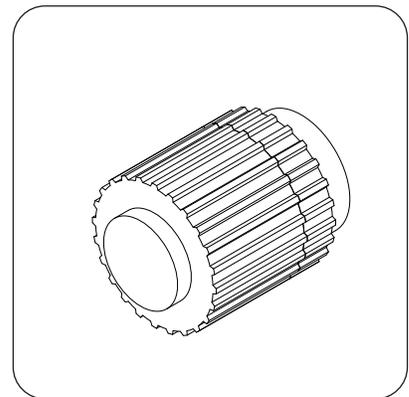
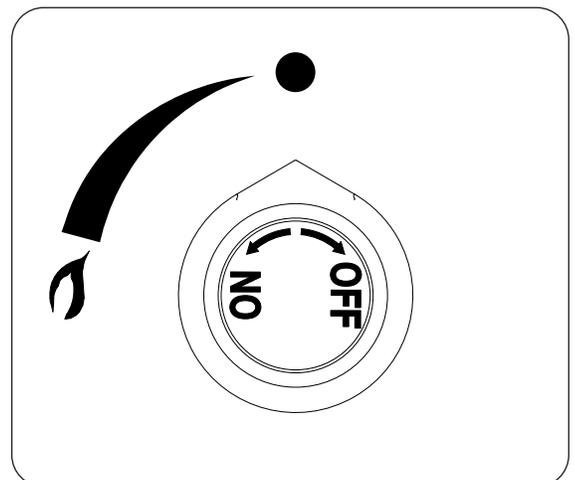

Fig. 51-1 Igniter button detail
Fig. 51-2 Control knob detail
2. Locate the control panel on the side of the unit (refer to the IDENTIFICATION PARTS LIST if needed), and identify the igniter button (Fig. 51-1) and gas control knob (Fig. 51-2). Ensure the gas control knob is in the OFF position before beginning the lighting sequence.
To extinguish your gas burner, turn the gas control knob clockwise to the **OFF** position (see Fig. 51-2). Be sure the control knob is turned fully off to avoid any gas leakage.